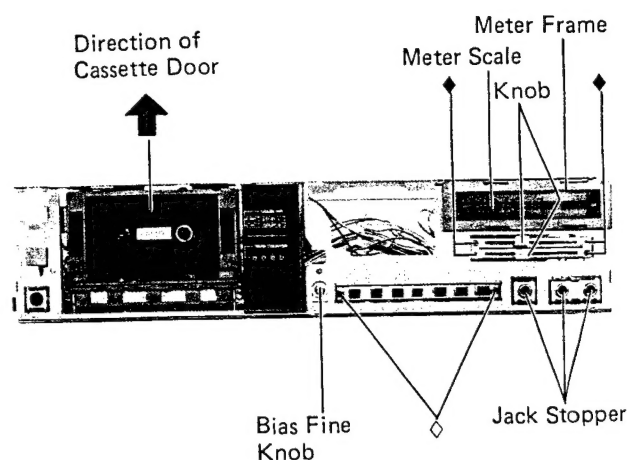

Figure 7
- (2) Remove the meter frame and scale meter as shown in Figure 7.
- (2) Remove three jack stopper from the mic jack and phones jack as shown in Figure 7.
- (4) Remove bias fine knob as shown in Figure 7.
- (5) Disconnect all wires from the master P.C. Board.
- (6) The P.C. Board can be completely removed from the chassis.
- (1) Remove four screws marked "◆" as shown in Figure 7.
- (2) Remove two knobs from the REC. VR. as shown in Figure 7.
- (3) Disconnect all wires from the REC. VR.
- (1) Lift up the cassette door in the direction of the arrow as shown in Figure 7.